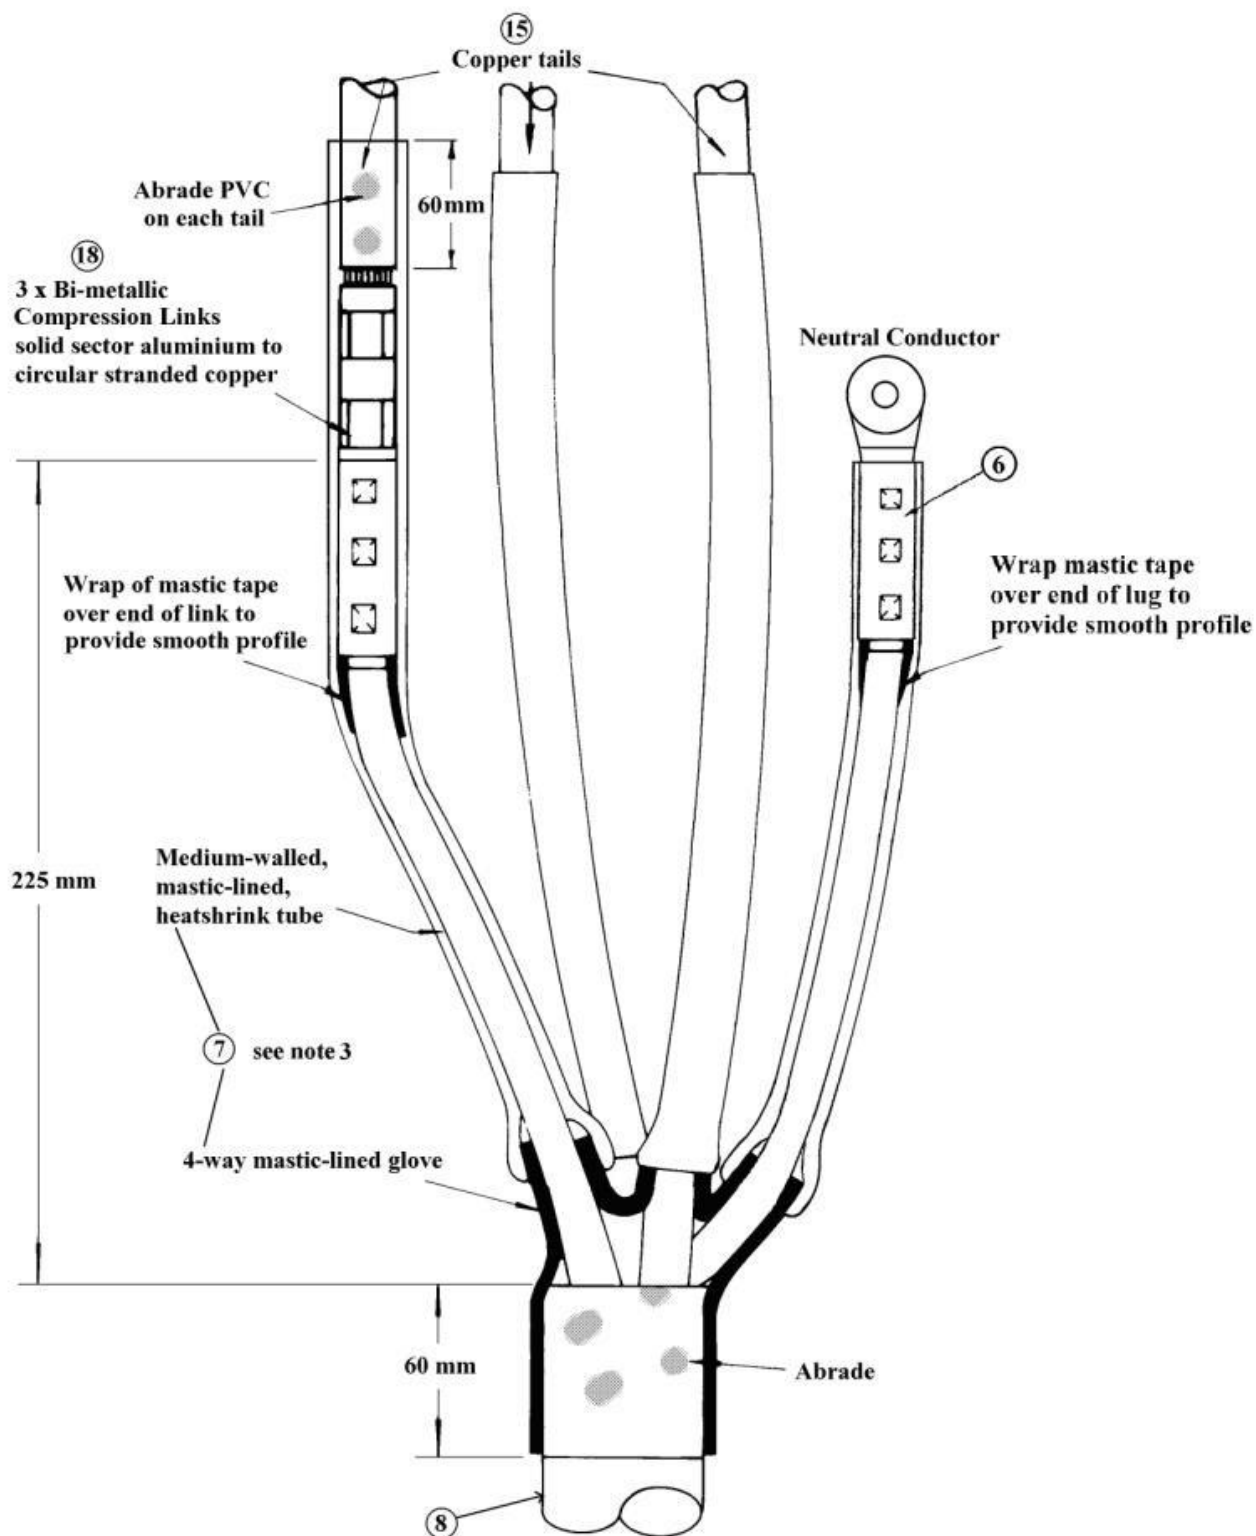

Figure 10.2 – Detail C: Cable Termination Details
1. Cover the bolted connection area with fibreglass tape to keep it free from any adhesives flowing from item 5.
3. The heatshrink components required for the multicore cable termination are packaged as a single kit. Refer to item 7 for details.
4. Abrade the cable sheath to the dimensions shown in General Arrangement and Figure 10.2 – Detail C: Cable Termination Details.